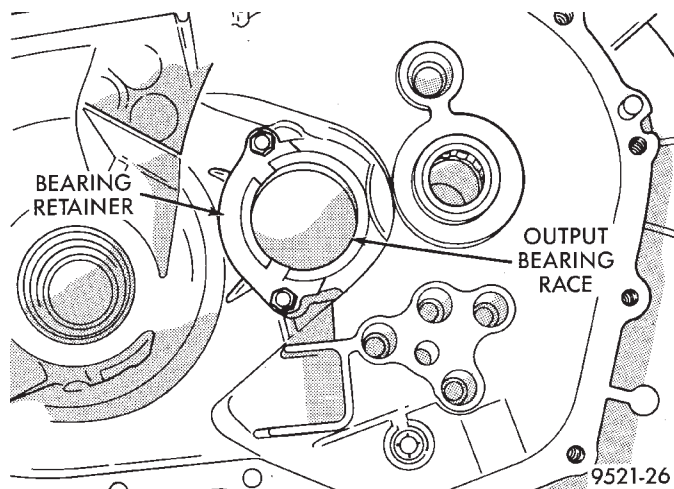

Fig. 133 Output Bearing Strap
(2) Remove screws at output bearing retainer strap (Fig. 133).